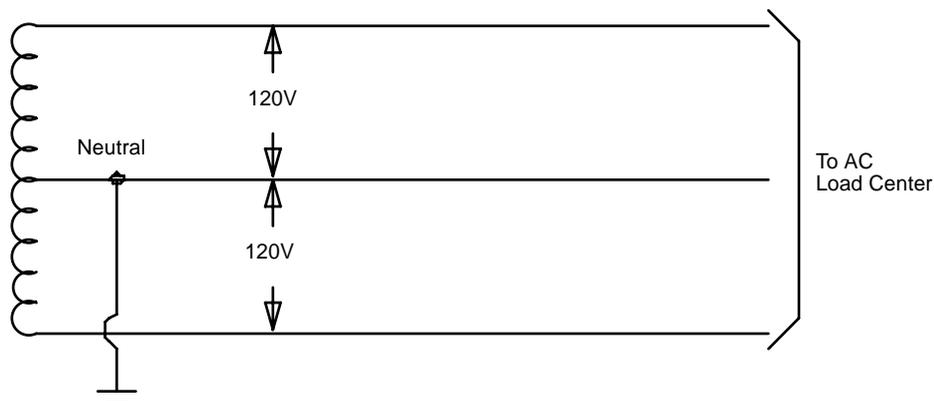

Figure 3-21. Single-Phase 3-Wire (220 to 240 VAC) System
3. Run the ground wire to the the MSM, and connect it to the MSM ground bar (Figure 3-21 on page 3-35).
4. At the AC load center, connect a 10-AWG wire single-point ground-terminal bar. This ground wire (coupled bonding conductor) will later be tie-wrapped to the trunk cables and connected to the coupled bonding conductor ground bar at the cross-connect field and finally terminated at the customer-provided load center (Figure 3-21 on page 3-35).